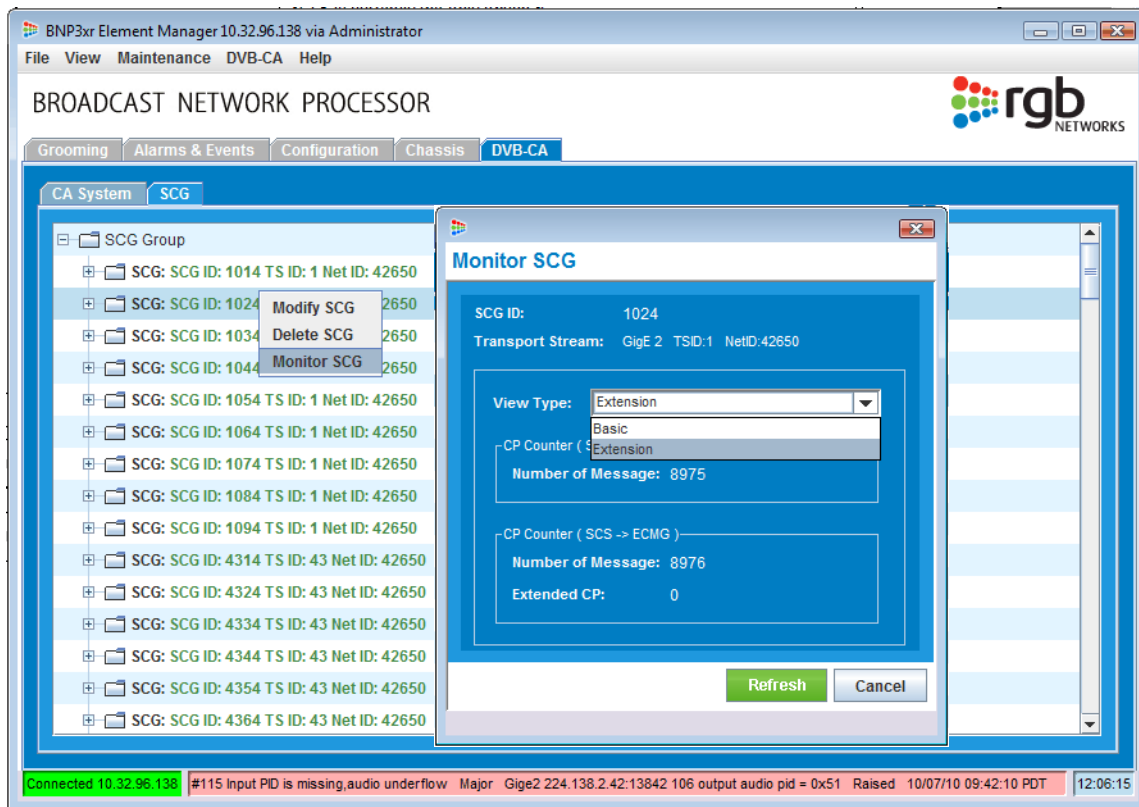

Figure 274. Monitor SCG dialog
3. The Monitor SCG dialog appears. Use the pull-down menu to choose the **Basic** or **Extension** view, as seen in Figure 274: